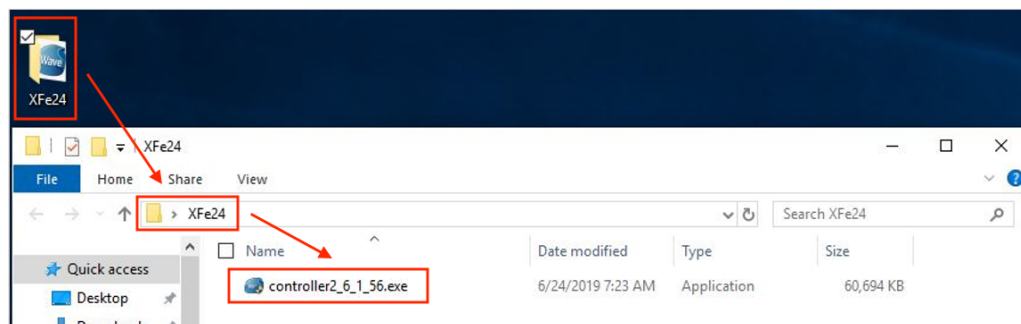
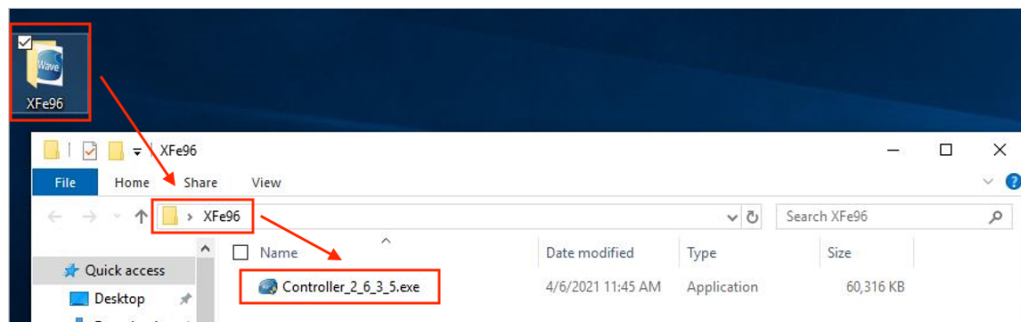

Figure 17. Select the appropriate folder based on your Seahorse XFe Analyzer type (in this example, **XFe24**).
Figure 18. Select the appropriate folder based on your Seahorse XFe Analyzer type (in this example, **XFe96**).
- 4 On the XFe Controller Desktop, there are two folders called **XFe24** (Figure 17) and **XFe96** (Figure 18). These folders contain the software installer (executable) file to install Wave Controller software application. Select the appropriate folder based on your Seahorse XFe Analyzer type and run the installer.